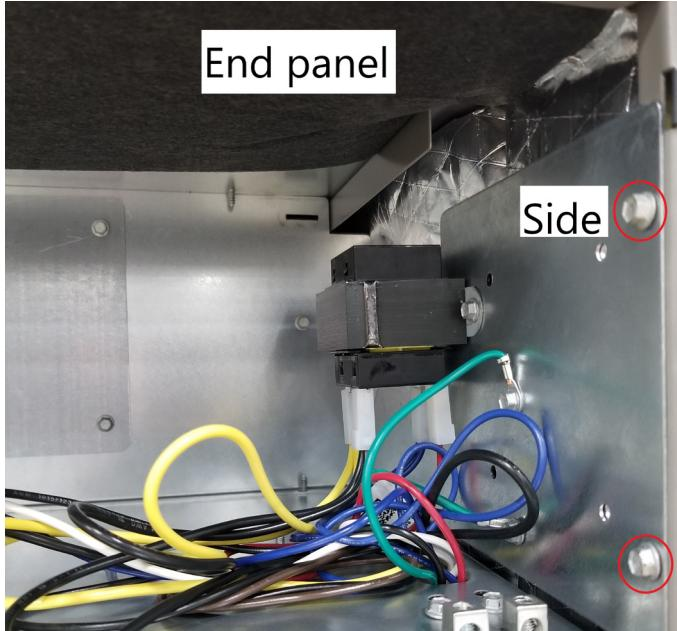

FIGURE 17. Electrical Connections (Upflow Configuration)
- 1 - Remove the two screws that secure the control panel to the cabinet. See figure 17. Slide panel out.